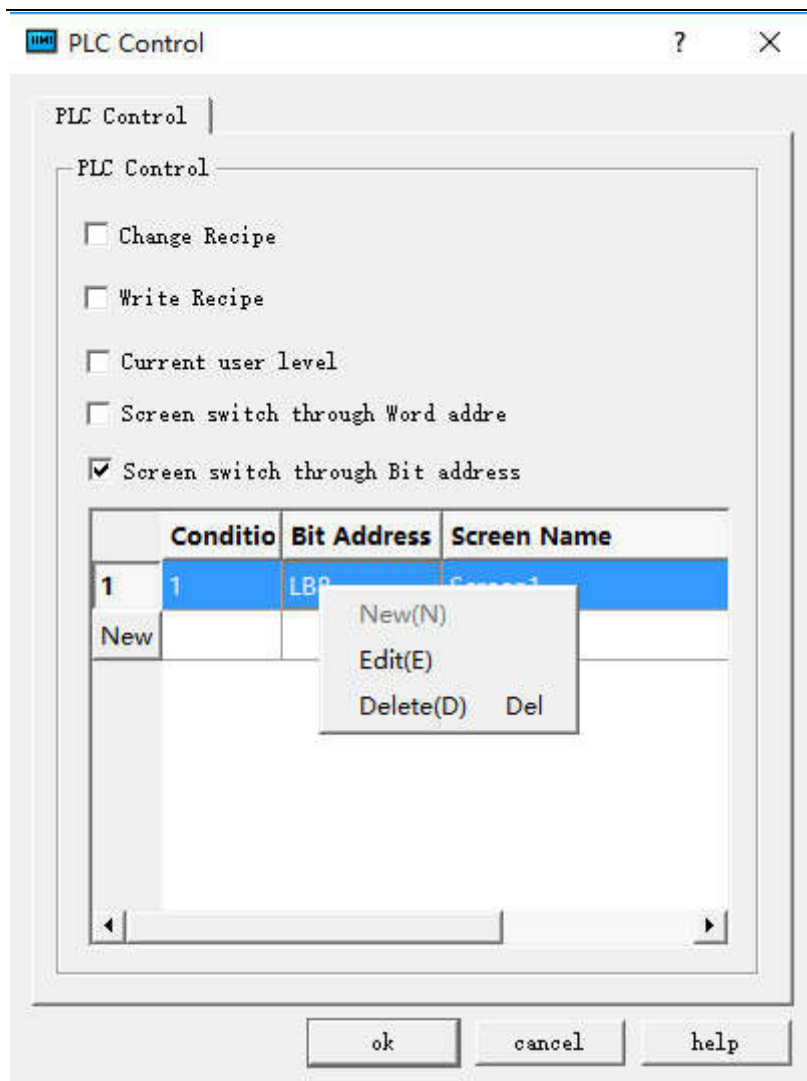

Figure 7-9 Add a bit control screen switch
- Screen switch through Bit address: Double click the "New" line; a pop-up dialog box will appear as shown in Figure 7-9: